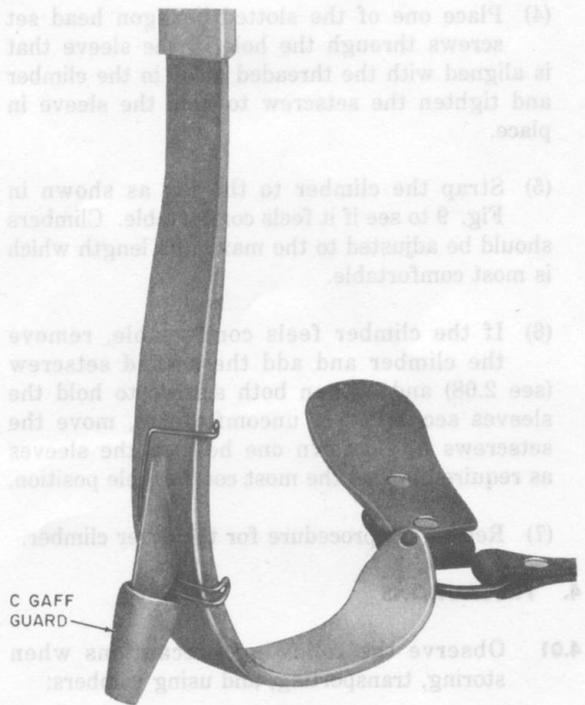

Fig. 7—C Gaff Guard Installed
2.12 Gaff guards are used to protect gaffs and employees when climbers are not being used. They also protect other tools from damage that are stored in the vicinity of climbers. Figure 7 shows the gaff guard installed.